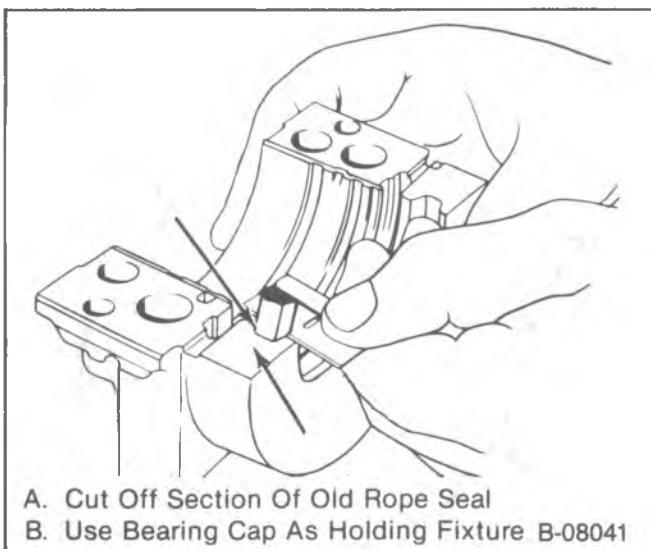

Figure 32—Cutting the Rope Seal
- After correctly positioning the seal, rotate J-33153 slightly and cut the seal ends flush with the bearing cap surface. Use a sharp tool (figure 32).